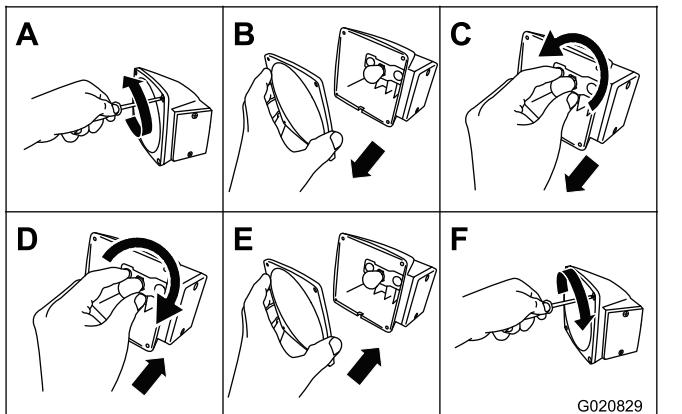

Figure 53
1. Use a screwdriver to remove the 4 screws from the large square lens on the light (Figure 53).
2. Remove the lens (Figure 53).
3. Push and twist the bulb counter-clockwise to remove it from the socket (Figure 53).
4. Push a new 1157 bulb into the socket and then twist it clockwise (Figure 53).
5. Install the lens and the 4 screws (Figure 53).